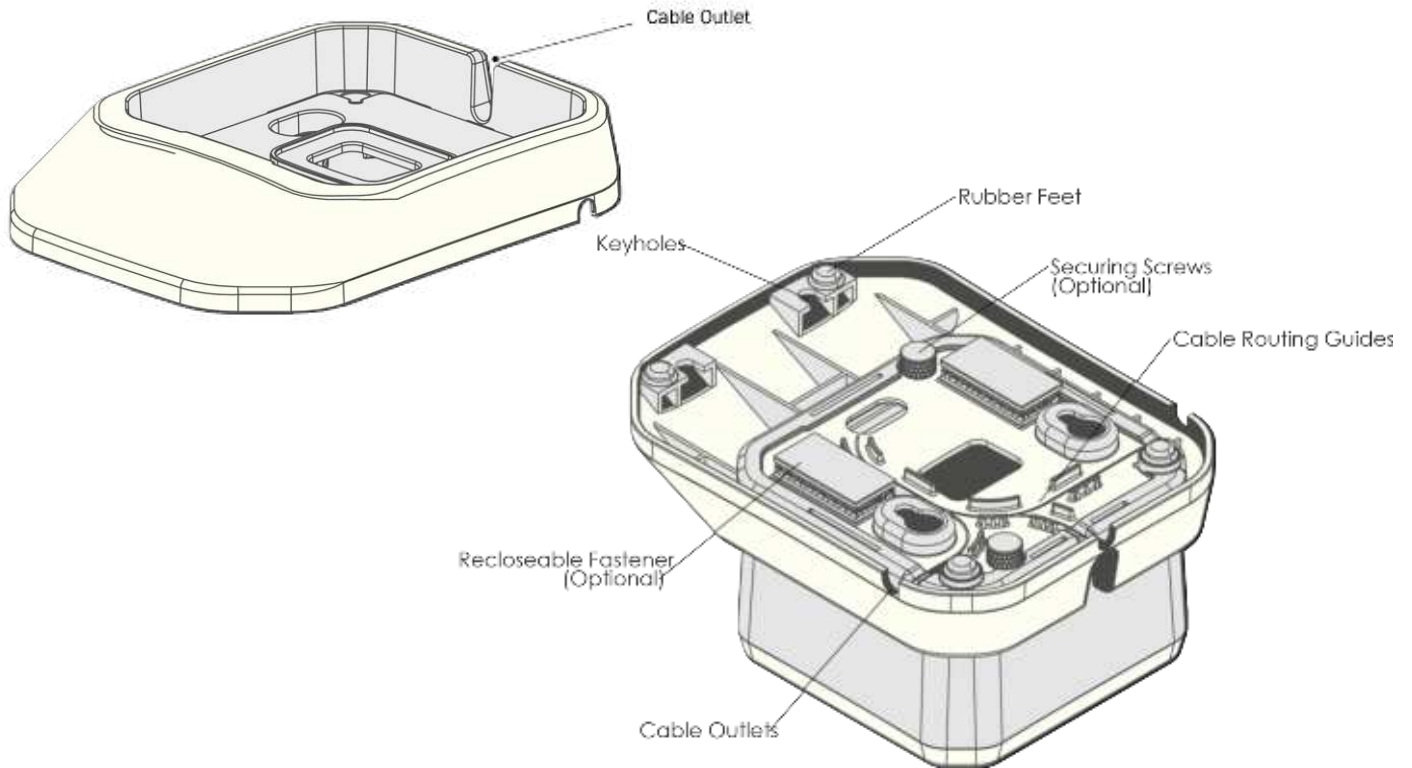
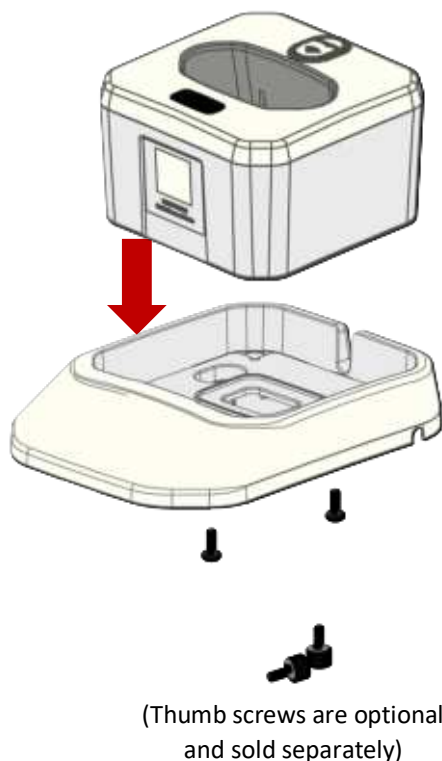
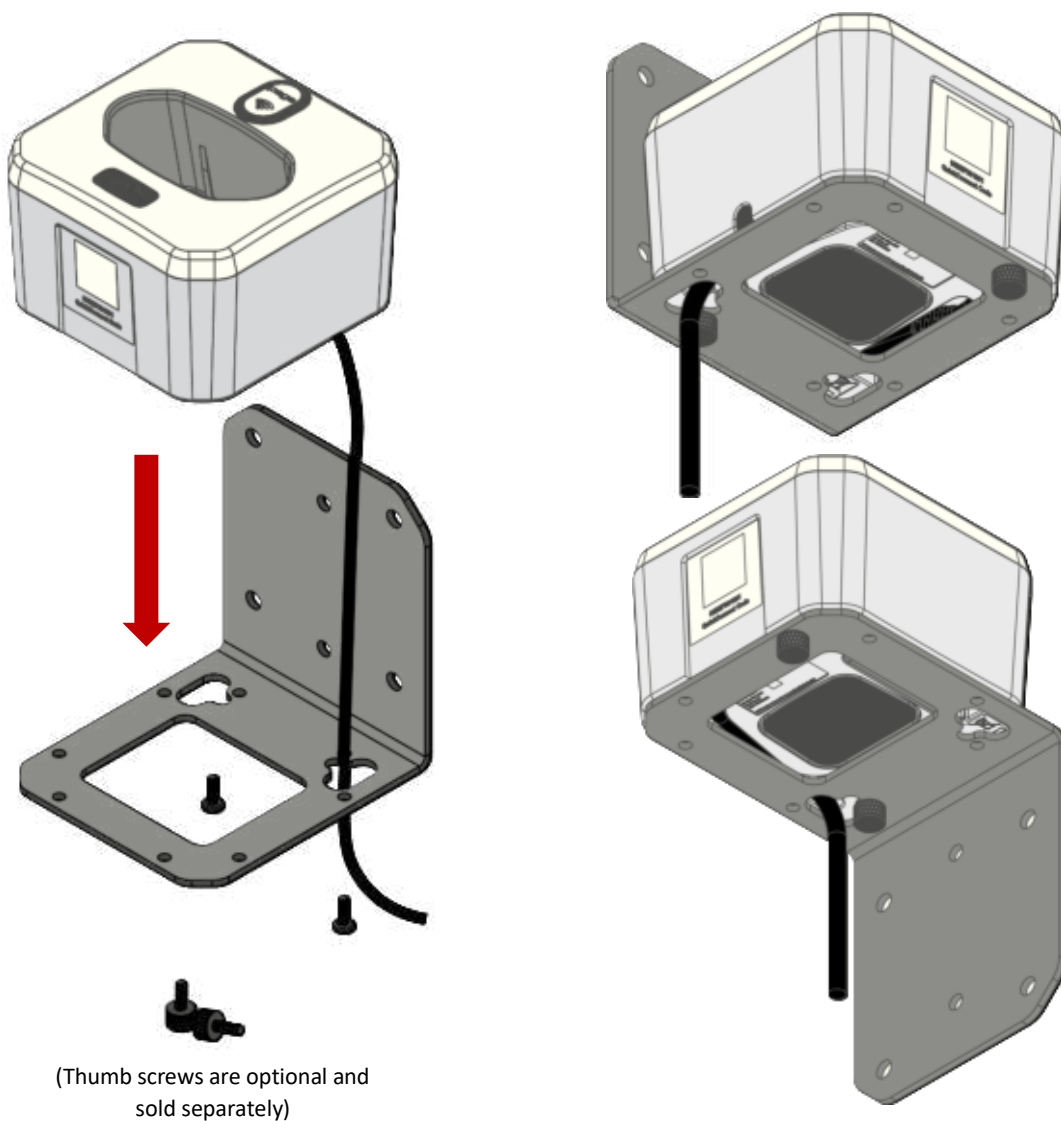

Figure 4 CRA-MB6 Desktop Base Features
Figure 8 Install and Secure Desktop Base CRA-MB6
Figure 9 Install Charging Station with Wall Mount Bracket CRA-WMB4
5.8.2 Run the cable along the cable routing guides on the bottom of the charging station. If the charging station will be placed into a desktop base (CRA-MB6), the cable should exit through the opening in the back of the charging station (see Figure 8). If the charging station will be mounted on a wall mount bracket (CRA-WMB4) or a VESA mount bracket (CRA-MB7), thread the cable through one of the two cable exit holes on the bracket (see Figure 9 or 10).
The Desktop Mount provides extra charger stability when the charger is free standing on a counter or desk. Place the charging station into a desktop base (CRA-MB6) (Figure 8). The charging station can be secured onto the base using two pan head screws supplied with the desktop base. The desktop base can be fastened onto a flat surface using included multi-use adhesive tape, if desired (see Figure 4 for locations to attach the tape). Additional adhesive tape (CRA-CR27-02 or CRA-CR27-10) is available as an accessory.
The charging station can be mounted onto a wall using the wall mount bracket (CRA-WMB4). Mount the bracket to a wall using four #10 (M4 or M5) size screws (not provided). The wall mount bracket can be mounted in upward or downward position depending on application (Figure 9). There are three positions that the charging station can be affixed onto the bracket. Choose a position suitable for your workflow, thread the USB cable through one of the two cable exit holes on the bracket, and attach the charging station onto the bracket using two screws supplied with the wall mount bracket. Optional thumb screws (CRA-CR27-01) are available to mount the charging station without using a screwdriver.